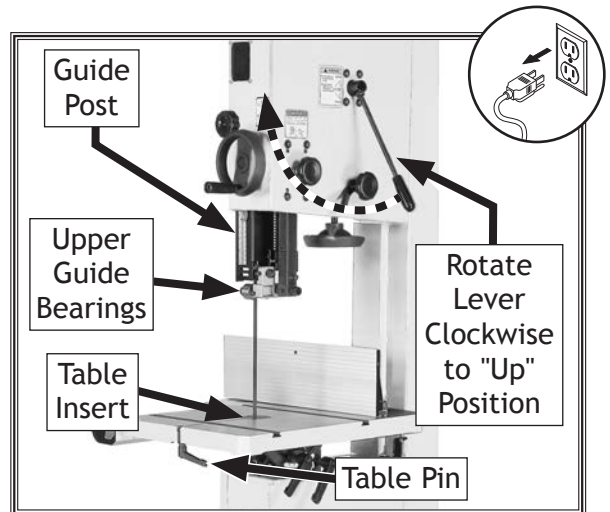

Figure 72. Blade changing controls.
2. Release blade tension by rotating blade tension quick-release lever (see **Figure 72**) clockwise to up position.
3. Remove table insert and table pin. Adjust upper and lower guide bearings as far away as possible from blade (see **Figure 72**).